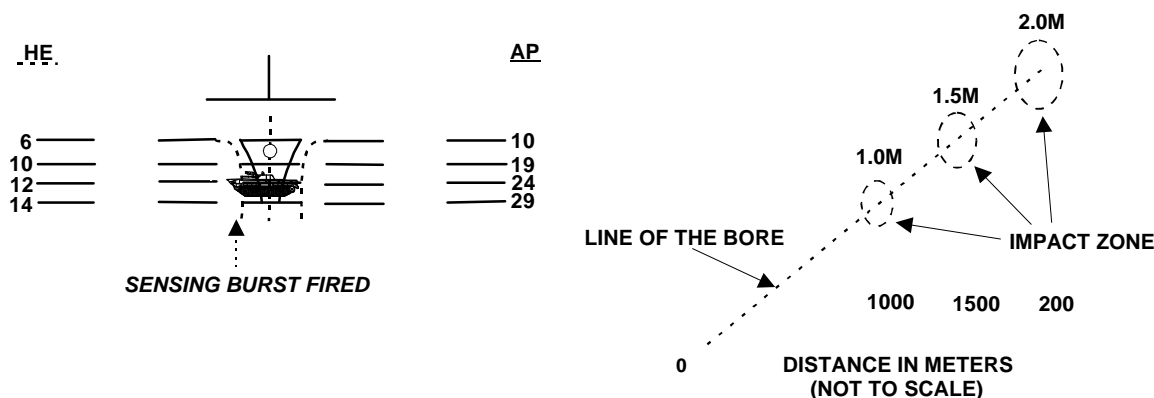

Figure 3-7. 3-Round Burst Against Point Target with Dispersion Factor.
f. The gunner fires a burst and then announces his observation and adjustment or observation and BOT. (See fig. 3-7.) The gunner then fires another 3-round burst, continuing until the vehicle commander commands **CEASE FIRE**.